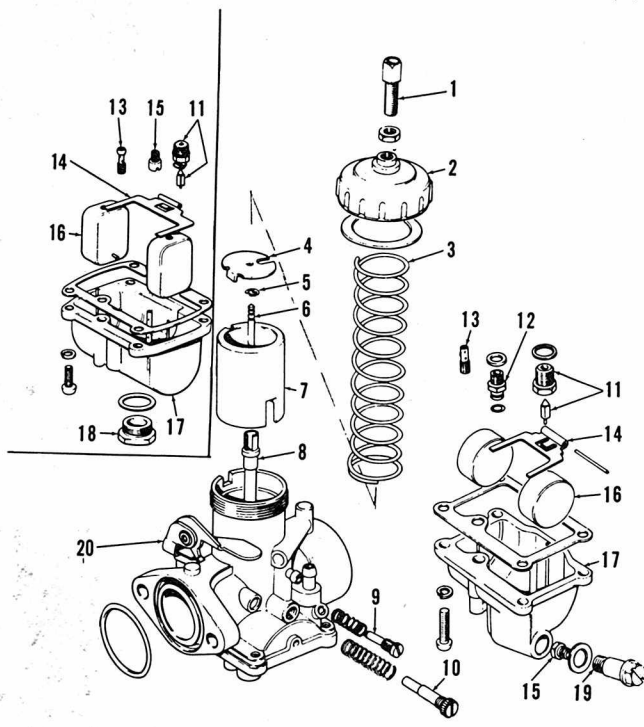

Fig. S12-1 — Exploded view of carburetor used on TS 250 R. Inset shows float assembly used on early models.
**CARBURETOR.** All models use a Mikuni 28 MM sliding valve carburetor. Refer to Fig. S12-1 and the following specifications: